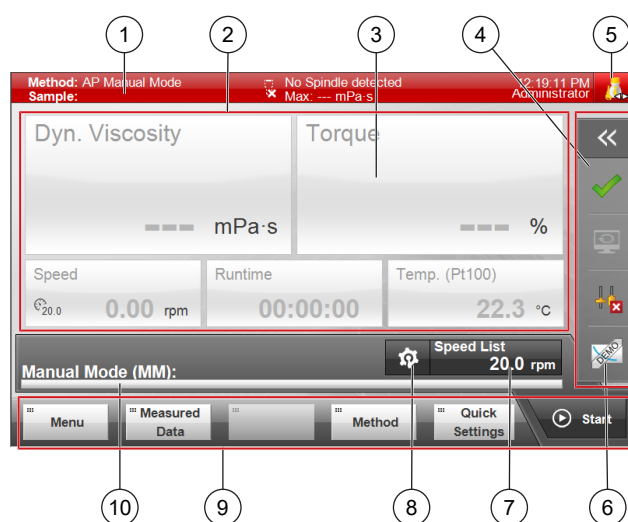

Fig. 8: Main screen - example: ViscoQC 300 (before measuring)
1. Tap the user indicator (Fig. 8 [▶ 13]) on the right side of the main screen's header.